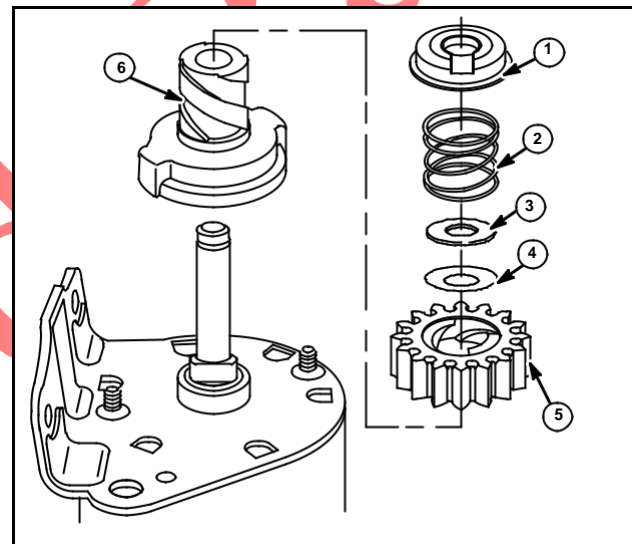

Fig. 58
2. Remove retainer (1), return spring (2), flat washer (3), spring washer (4), pinion gear (5), and starter clutch (6), Fig. 58.